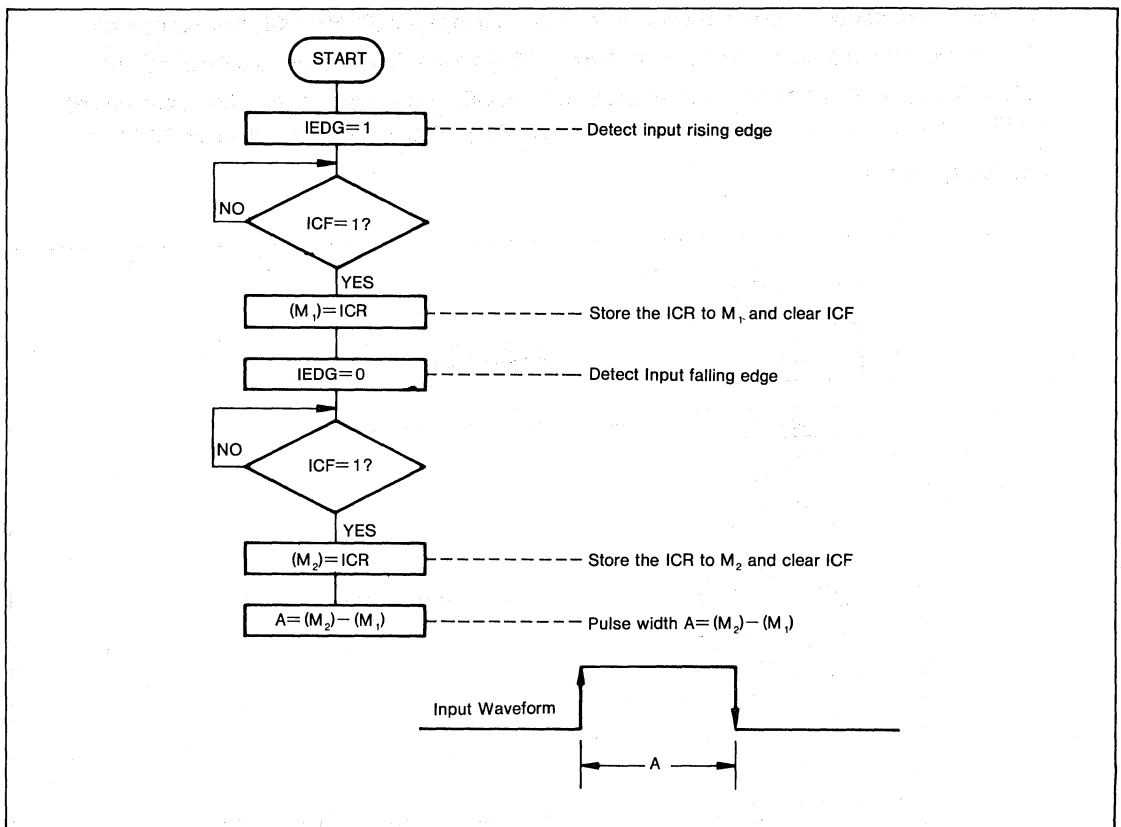

Figure 8-4. ICR Pulse Width Measurement
**Pulse Width Measurement.** The input capture register (ICR) latches the free-running counter value at the transition of the external input signal, measuring the pulse width or cycle. Figure 8-4 is a flowchart of pulse width measurement.